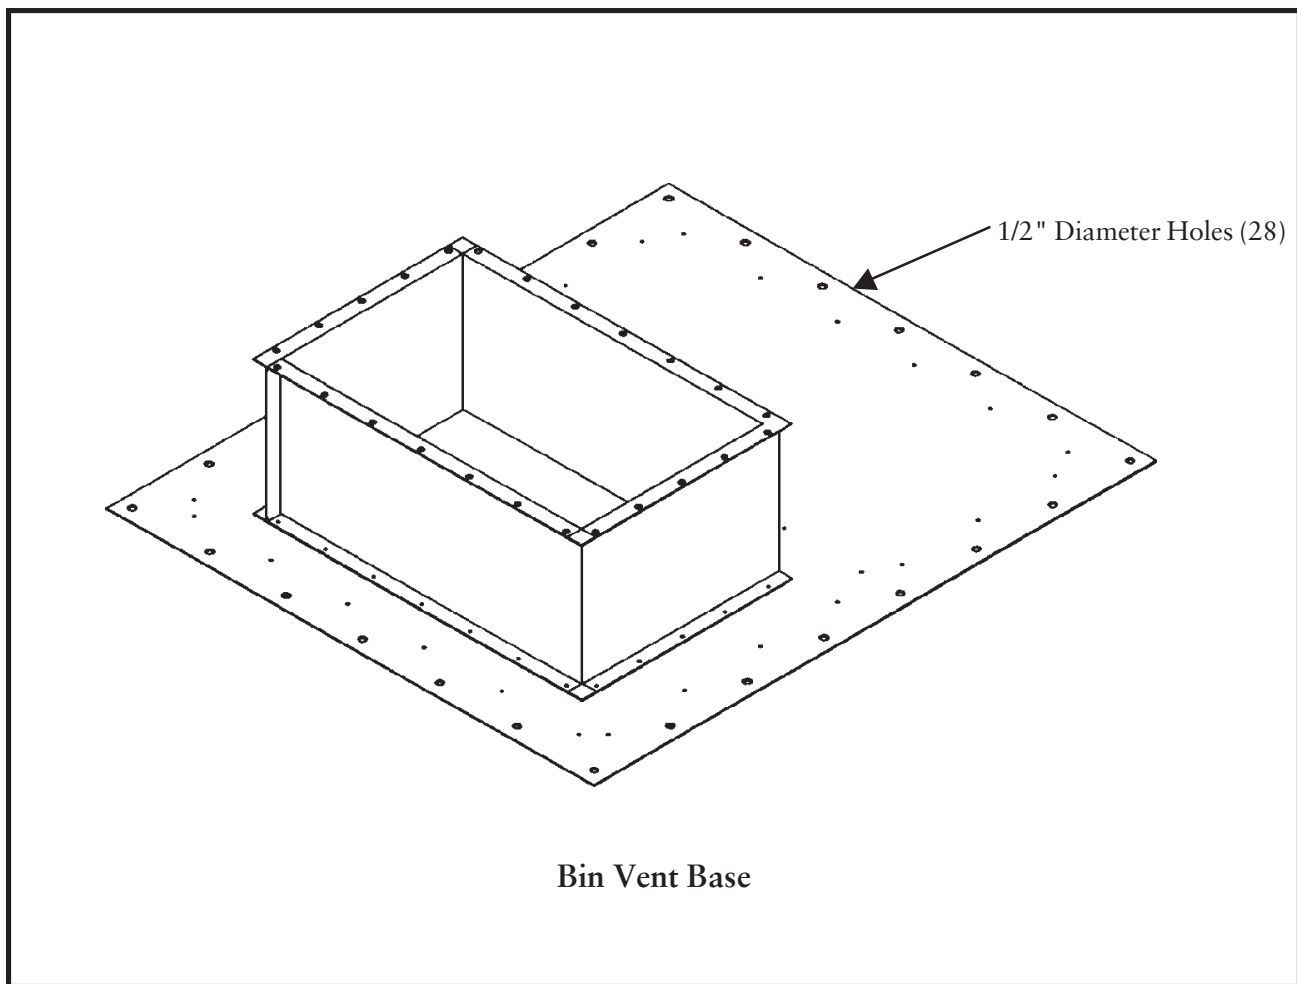

Figure 11
(See Figure 11 Bin Vent Base Pack)
The Bin Vent pack for the SDF consists of a base, as shown in Figure 11 Bin Vent Base Pack. The Bin Vent base has twenty-eight (28) 1/2" diameter holes for attachment in the field.